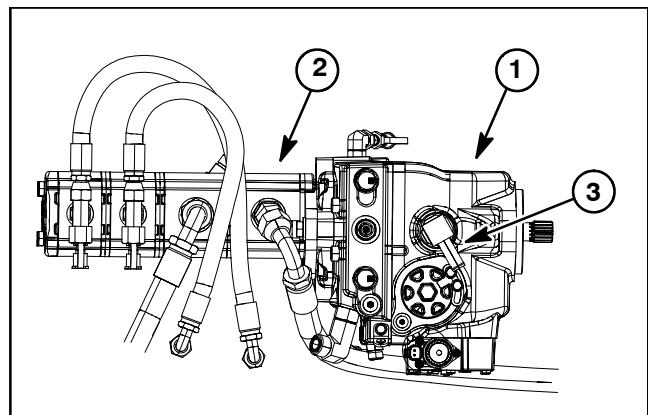

Figure 64
6. Using labels placed during pump removal, connect wire harness connectors to the two (2) solenoid coils on left side of piston pump.
7. Fill piston (traction) pump housing with new hydraulic oil through the case drain (90° barbed fitting) at the top of the pump (Fig. 64). This will ensure that internal pump components have adequate lubrication during initial operation.